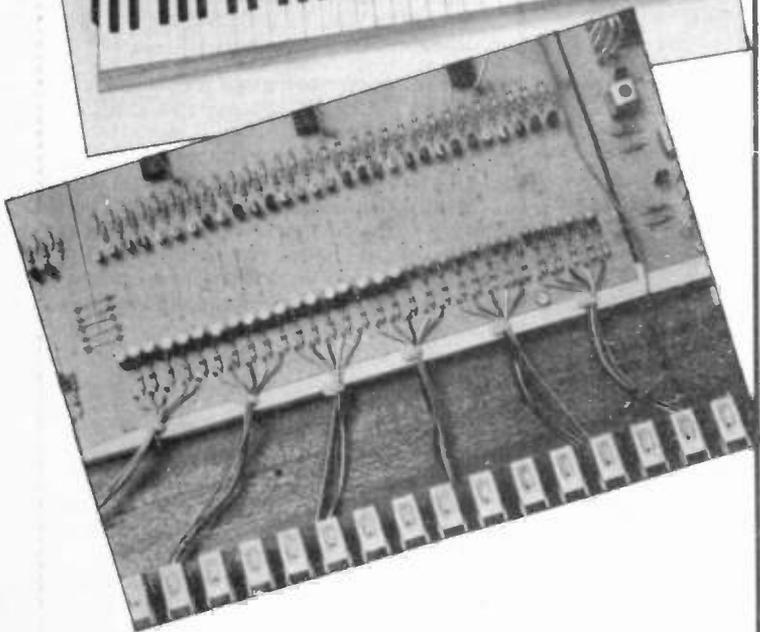

Figure 3. Connections between Board 3 and 4, and the keyboard contacts should be cable-tied into small groups
Now cable-tie each group of leads after connecting each lead of the group at both ends. The view in Fig. 3 shows the idea.
- In Fig.3, the positive plate of capacitor C3 should be at the right-hand side, and capacitors C28 and C32 should both be turned around.